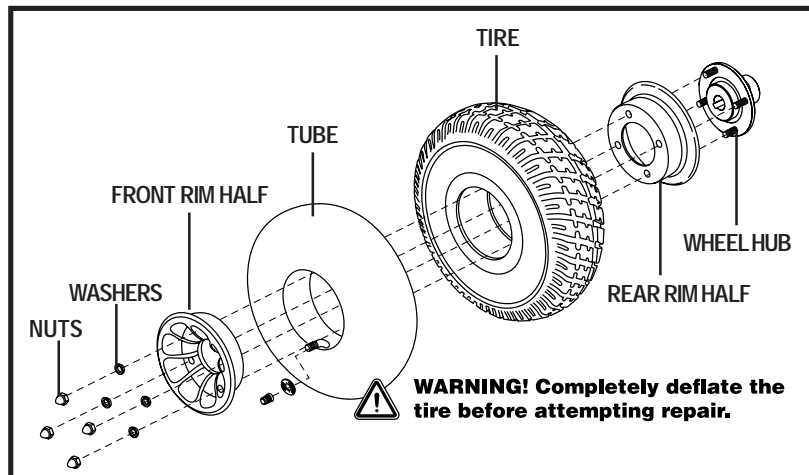

Figure 26. Quantum 1103 Ultra Drive Wheel Disassembled
6. Remove the nuts and washers from the wheel hub to separate the rim halves. See figure 26.